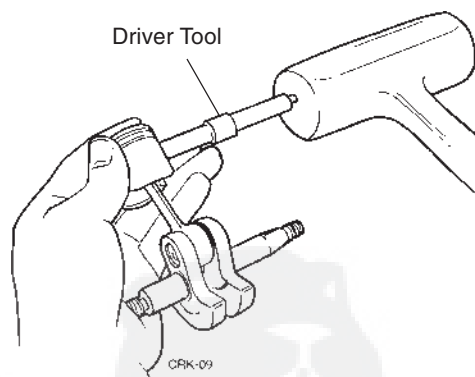

Figure 7.16 Using a Driver Tool
- While supporting the piston by hand, use a soft-faced hammer and an appropriate driver to install the pin in the piston pin booses (Figure 7.16).